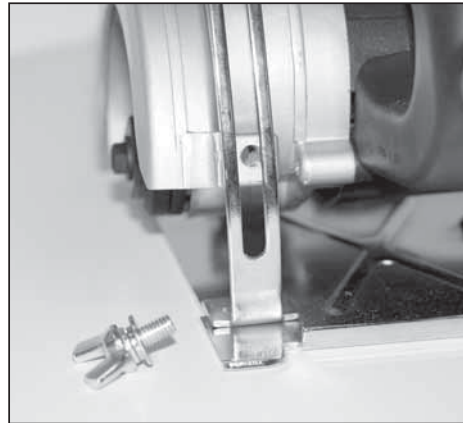

Figure-6
(See Figure-6)
2. Raise cutting depth so there is room between the body and the base plate. (See Figure-6)